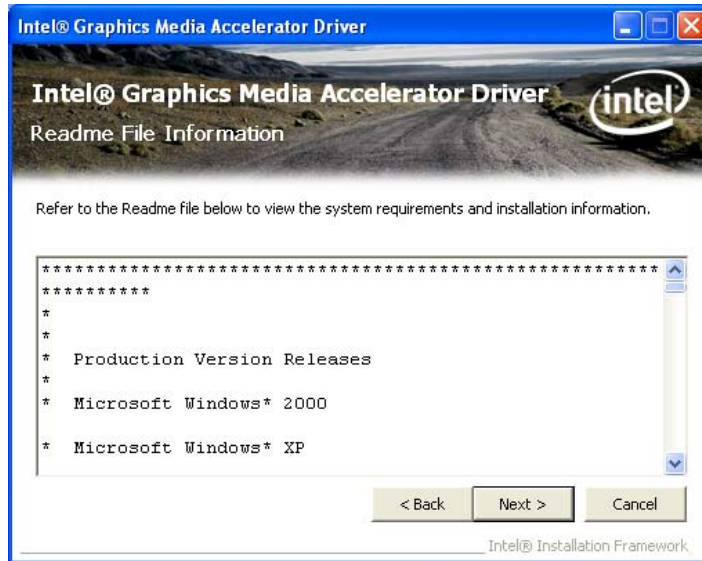

Figure 7-14: VGA Driver Read Me File
Step 11: The Read Me file in Figure 7-14 appears.